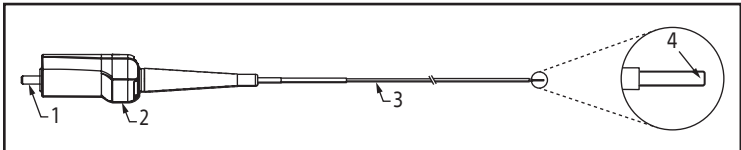
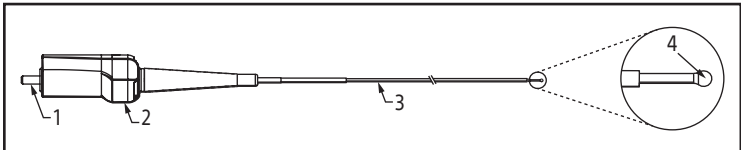

Figure 1. Fibre laser Flexiva Pulse ID
Figure 2. Fibre laser Flexiva Pulse ID TracTip
4. Pointe de sortie distale (pointe plate (Fig. 1) ou TracTip (Fig. 2))